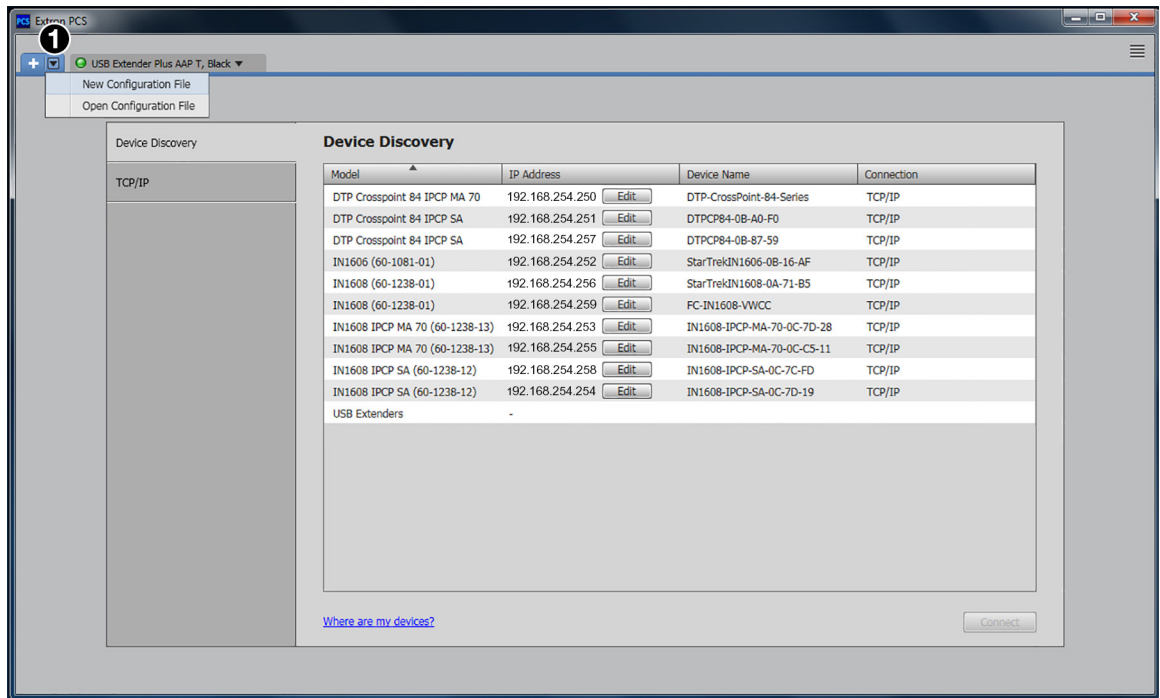

Figure 26. Selecting New Configuration File on the PCS Window
4. On the **Extron PCS** window, click the down arrow button in the upper-left corner (see figure 26, ①) to display the configuration drop-down list.